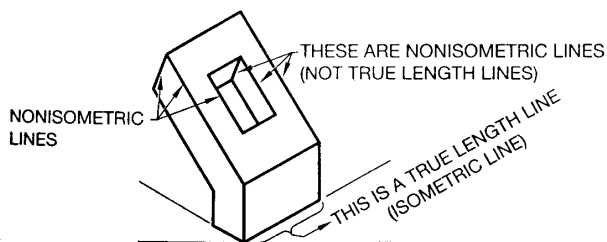
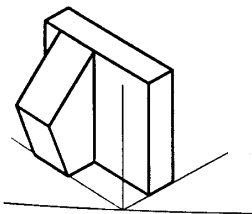

FIGURE 2.57 ■ Nonisometric lines.
FIGURE 2.58 ■ Guide.
*Isometric lines* are lines that are on or parallel to the three original isometric axes lines. All other lines are *nonisometric lines*. Isometric lines can be measured in true length. *Nonisometric lines* appear either longer or shorter than they actually are. (See Figure 2.57.) You can measure and draw nonisometric lines by connecting their end points. You can find the end points of the nonisometric lines by measuring along isometric lines. To locate where nonisometric lines should be placed, you have to relate to an isometric line. Follow through these steps, using the object in Figure 2.58 as an example.